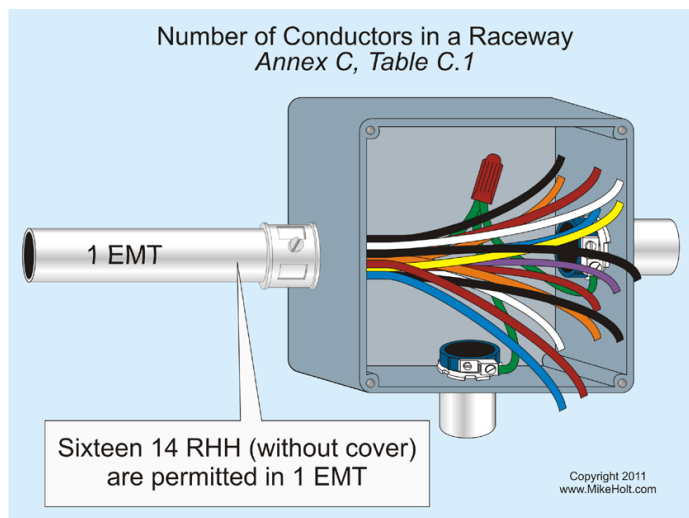

Figure 5-2
**Question:** How many 14 RHH conductors (without cover) can be installed in trade size 1 EMT? **Figure 5-2**